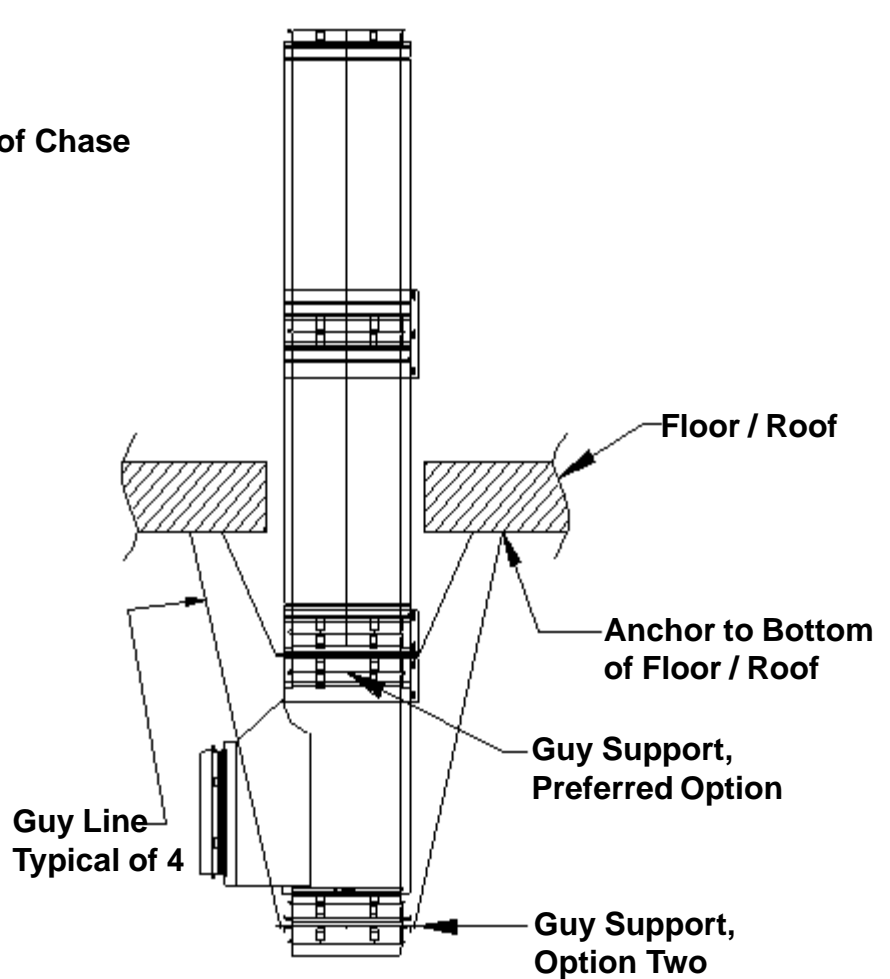

Figure 5
4. Insert the male end of the first piece of Saf-T Vent CI Plus into the female end of the boiler adapter, lining up the joint tabs, *figure 5*. Install the joint strap over the tabs of both parts. hand tighten the strap with a 7/16" hollow nut driver. **CAUTION:** Overtightening will distort the joint. Re-tighten the boiler clamp around the flue collar. If possible, reach into the vent and apply RTV sealant to all inside seams of the boiler adapter and the first joint. Smooth the sealant with a moistened finger or flat tool, *figure 5*.
APPLICATION 2. Support Below a Floor or Roof (Figure 5).